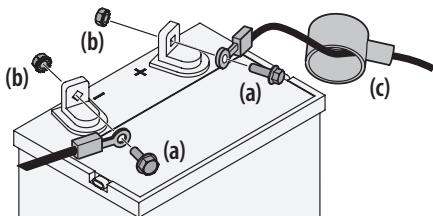

Figure 13
- If present, remove the plastic cover from the positive battery terminal. Attach the red connector to the positive battery terminal (+) using the bolt (a) and hex nut (b). See Figure 13.
- If present, remove the plastic cover from the negative battery terminal and attach the black cable to the negative battery terminal (-) with the bolt (a) and hex nut (b). See Figure 13.
- Position the red rubber boot (c) over the positive battery terminal to help protect it from corrosion. See Figure 13.